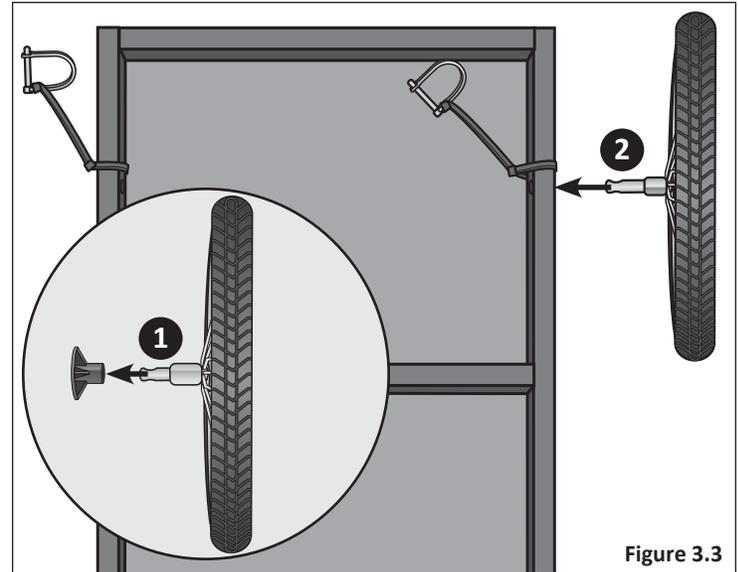

Figure 3.3
- 2 Insert the axle of the wheel into the hole located on the side of the trailer frame. Figure 3.3